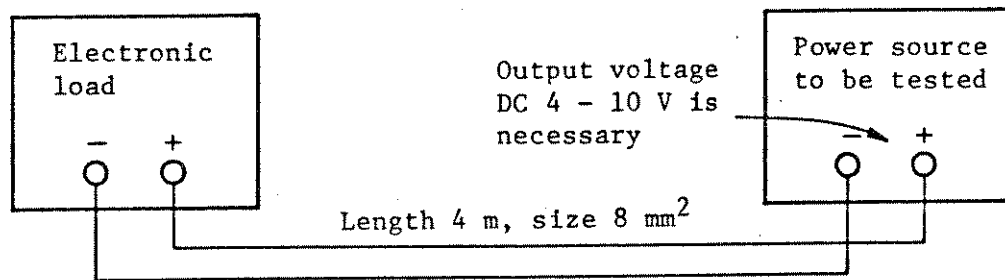

Figure 2-1-4
- ⑭ C.R RANGE. Switch to change resistance range in at the constant resistance mode. Switching to the 100 to 1000  $\Omega$  range is made by using the terminal board on the rear panel.
- ⑮ C.C RANGE. Switch to change the range for constant current mode.
- ⑯ FUNCTION. Either of the following four constant current modes may be selected: EXT (External Voltage Control), INT (Manual Control), SW (Switching Operation), and DC (DC Operation).
- ⑰ PRESET. By depressing this switch, current value or resistance value will be indicated on the digital ammeter depending on the state of the mode switch. At the constant current mode, current value may be preset by either CURRENT I or CURRENT II dial which is selected by the manual switch. At the constant resistance mode, resistance value may be preset by the CURRENT/RESISTOR dial.
- ⑱ PRESET W INPUT POWER. Loading power (watt) is indicated on the voltmeter while power limit value is indicated on the power indicator.
- ⑲ POWER LIMIT. Semi-fixed adjuster to change power limit value. The value may be set by use of the power indicator while depressing PRESET W switch.
- ②① CURRENT MONITOR. Current monitor terminals (10 mV/A). At the switching mode, current wave form and switching frequency and duty may be adjusted through an oscilloscope.
- ②② DC INPUT. Rear panel input terminals installed in parallel connection to DC INPUT terminals on the front panel. The highest range of the constant resistance mode may be set at 100 to 1000  $\Omega$  by combination of the short pieces,  $\times 10$  and  $\times 1$ .
- ②③ 120 V AC 50/60 Hz. Power supply cable.
- ②④ Fan Blowout Opening. Air blowout opening of clean package. Do not place anything sensitive to heat around the unit, since hot air is expelled. Also, be certain to place the unit at a distance of 30 cm or more from the wall.
- ②⑤ Terminal Base. The terminal base is installed for external controls. (See Fig. 2-1-4). Terminals for the following operations are installed: External voltage control and resistance control under the constant current mode; external voltage control, sensing and one-controlled parallel operation; sensing under the constant voltage mode; and external control of the LOAD switch.
- ②⑥ Option Unit Installation Holes. Screwed holes for installing the DPO series (Digital Programmable Options).